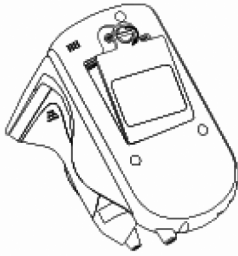

Figure 2
- 1) Open the rear panel with coin or an ordinary flat screwdriver, as shown in Figure 2.
- Figure 2